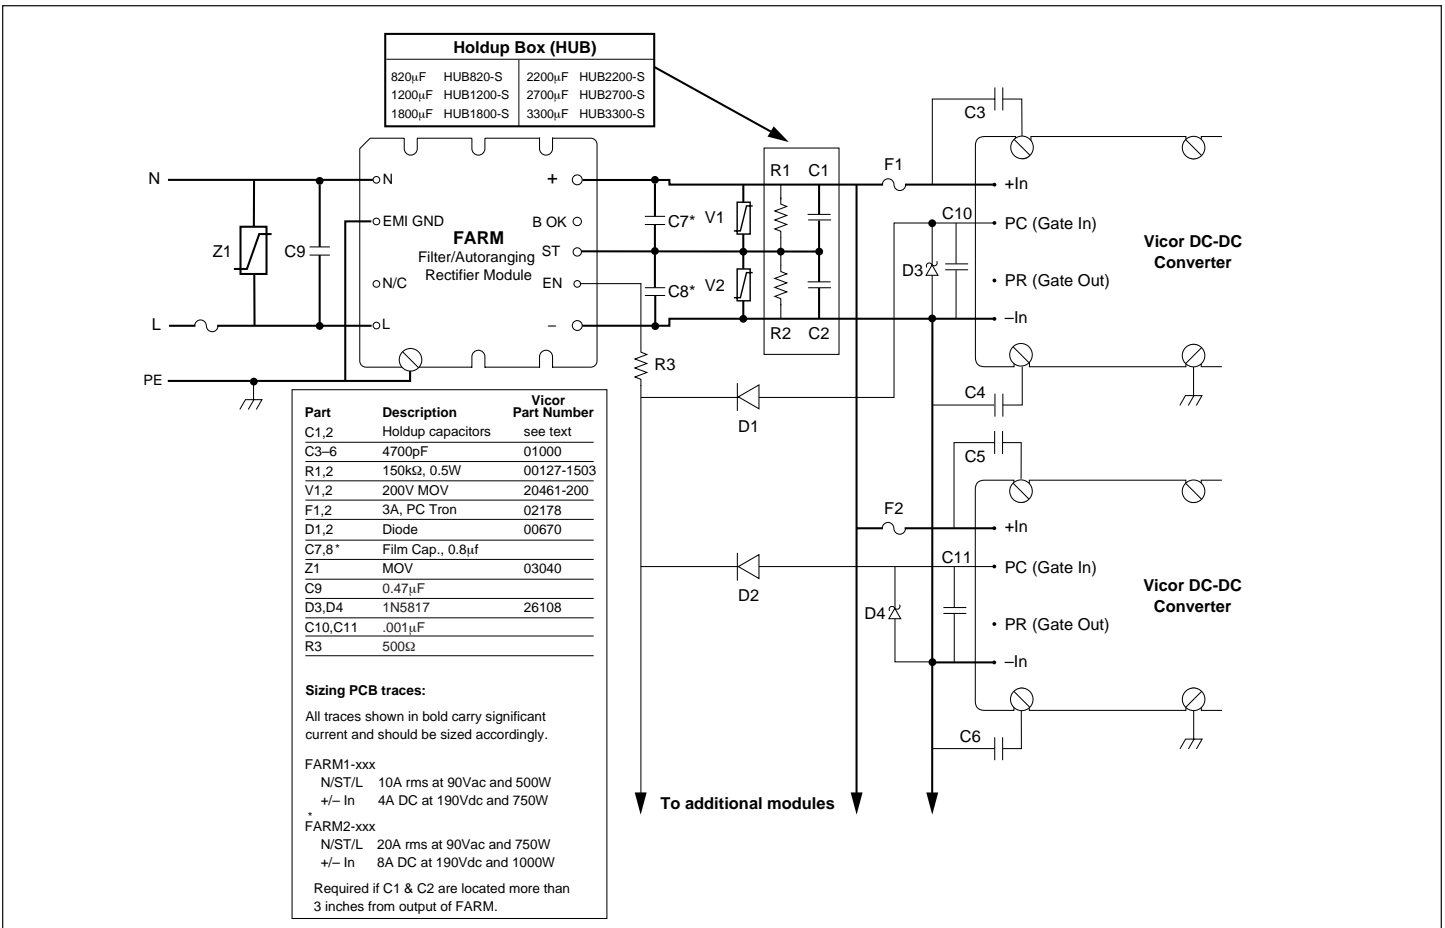

Figure 9—Converter connections
**Strap (ST) Pin.** In addition to input and output power pin connections, it is necessary to connect the Strap pin to the center junction of the series hold-up capacitors (C1, C2, see Fig. 9) for proper (autoranging) operation. Gas tubes V1 and V2 provide capacitor protection. The bleeder resistors (R1, R2, see Fig. 9) discharge the hold-up capacitors when power is switched off. Capacitors C7 and C8 are recommended if the holdup capacitors are located more than 3 inches from the FARM output pins.
It should be noted that the series combination ( $C1, C2$ , see Fig. 9) requires each capacitor to be twice the calculated value, but the required voltage rating of each capacitor is reduced to 200V.